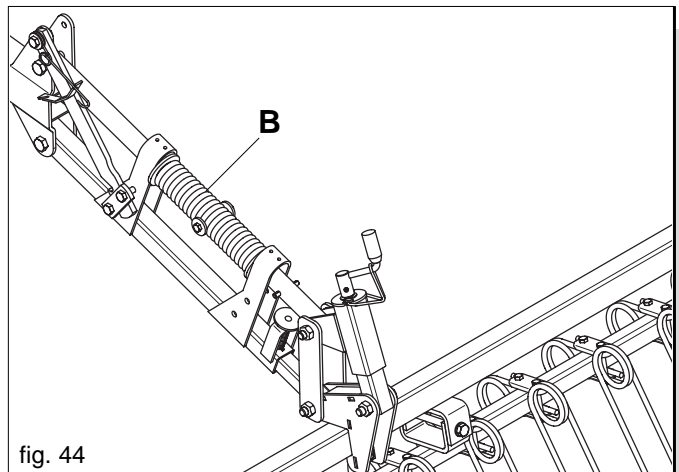

fig. 44
The working pressure of the spring-loaded teeth can be varied by rotating the spring (B) located on the upper parallel arm (Fig. 44).